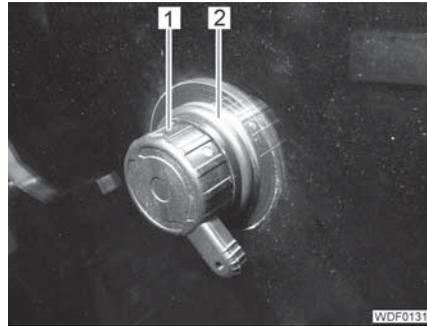

Fig. 387 Window stop
- Remove the O-ring (Fig. 387,2).
- Remove the window stop (Fig. 387,1).
- Insert the window stop (Fig. 387,1) from outside into the pane.
- Fix the window stop with new O-ring (Fig. 387,2).